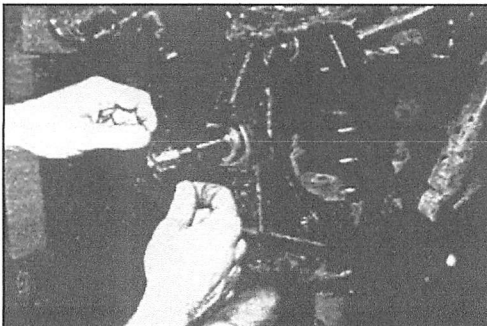

Fig. 6a
Step 6: Install the vibration ring gasket and dust shield using the supplied 5/16" bolts and lock washers (Figs. 6a, 6b).